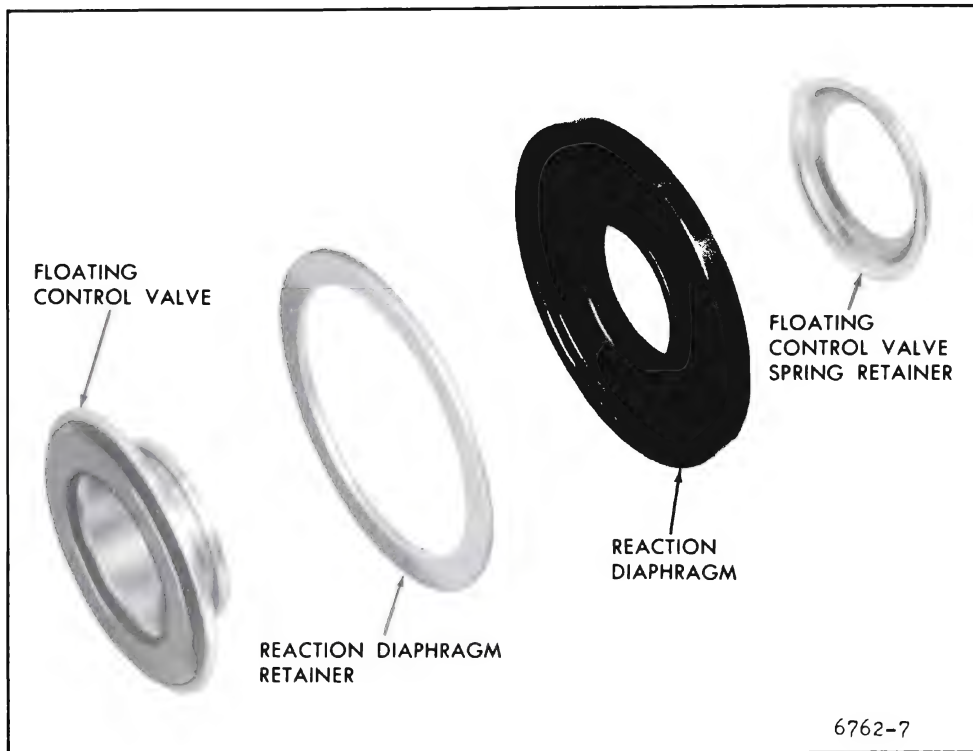

Figure 9-25—Floating Control Valve Assembly
center of power piston. The removal of the floating control valve exposes the floating control valve spring for removal. See Figure 9-25.
9. Assemble the floating valve diaphragm over the flanged hub of the floating control valve. The flat surface of the diaphragm will be on the opposite side from the rubber face on the floating control valve. Insert the control valve diaphragm plate under the lip of the valve diaphragm. Place the spring retainer down over the hub of the floating control valve. See Figure 9-25.